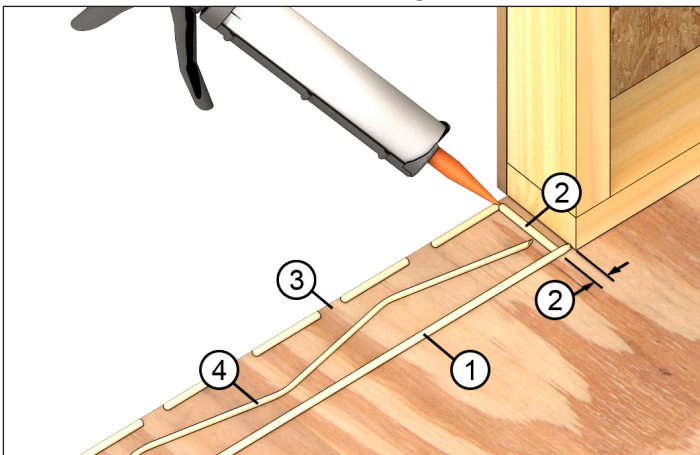

Figure 10
2. Apply a 3/8" (10) bead of adhesive on the subfloor at the interior edge of the door opening. Apply a bead of sealant 1/2" (13) from both ends of the rough opening that run interior to exterior. Apply a discontinuous bead at the exterior. Gaps should be about 1-2" (25-51) wide and start 2-4" (51-102) from the ends. Finally, lay another bead approximately 2 1/4" (57) from the interior bead in a slight wiggle pattern. Adhesive beads should contact the interior and exterior flat portions of the sill as well as the center rib. See Figure 10.